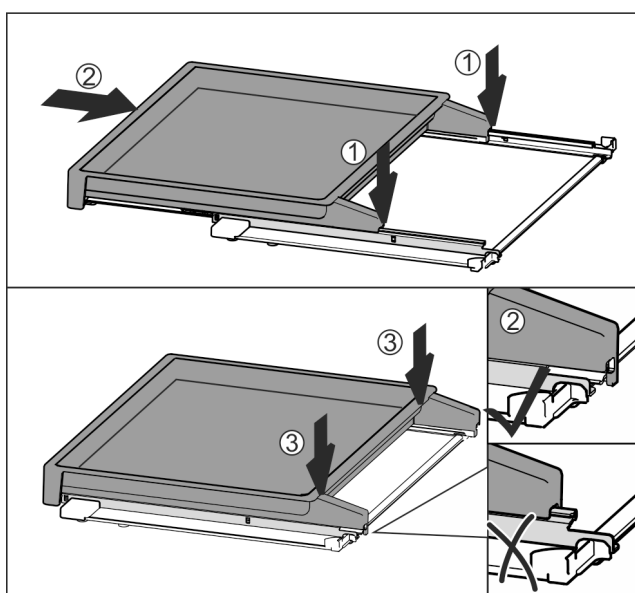

Fig. 33
- Place centrally on the rails Fig. 33 (1).
- Slide the pull-out board all the way in Fig. 33 (2).
- Press down at the back until it clicks into place Fig. 33 (3).